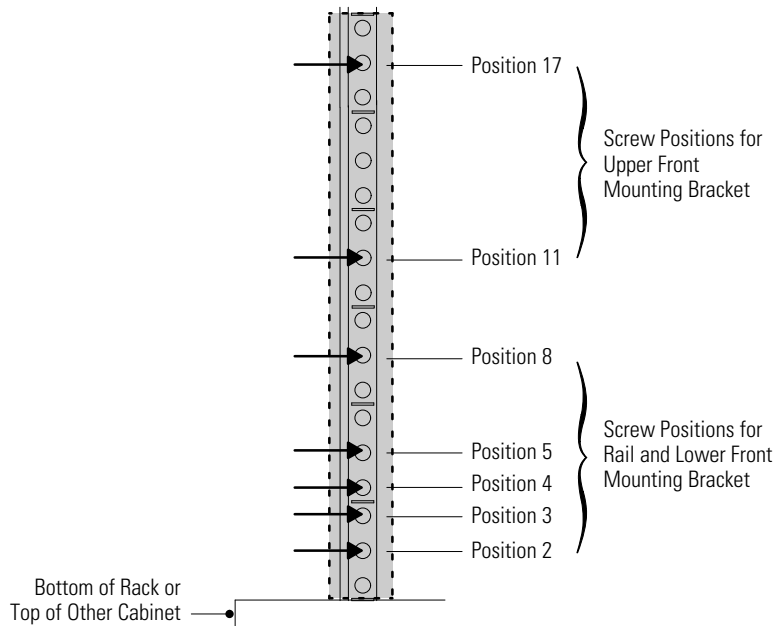
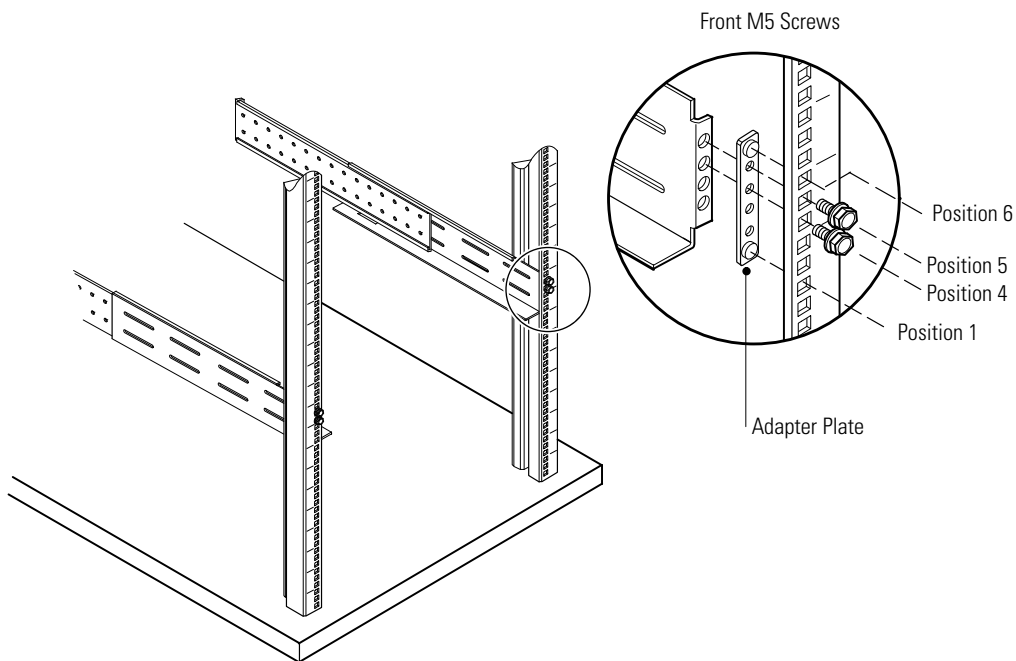

Figure 14. Front Rail Screw Positions for the UPS
Figure 15. Securing the Front Rail
1. Select the proper holes in the rack for positioning the UPS in the rack (see Figure 14).
3. Using two M5 machine screws and an adapter plate, attach the rail to the front of the rack (see Figure 14 and Figure 15).